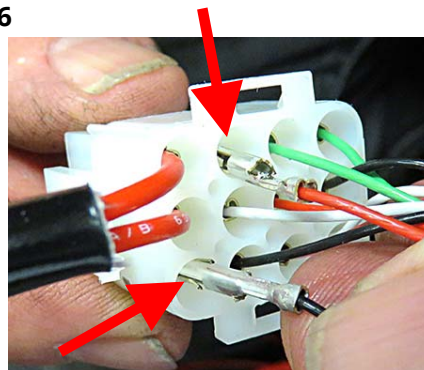

Figure 68
66. If using Revision A 8076105 harness, remove pins 3 (red) & 4 (black) out of 12-pin connector (see Figure 68).